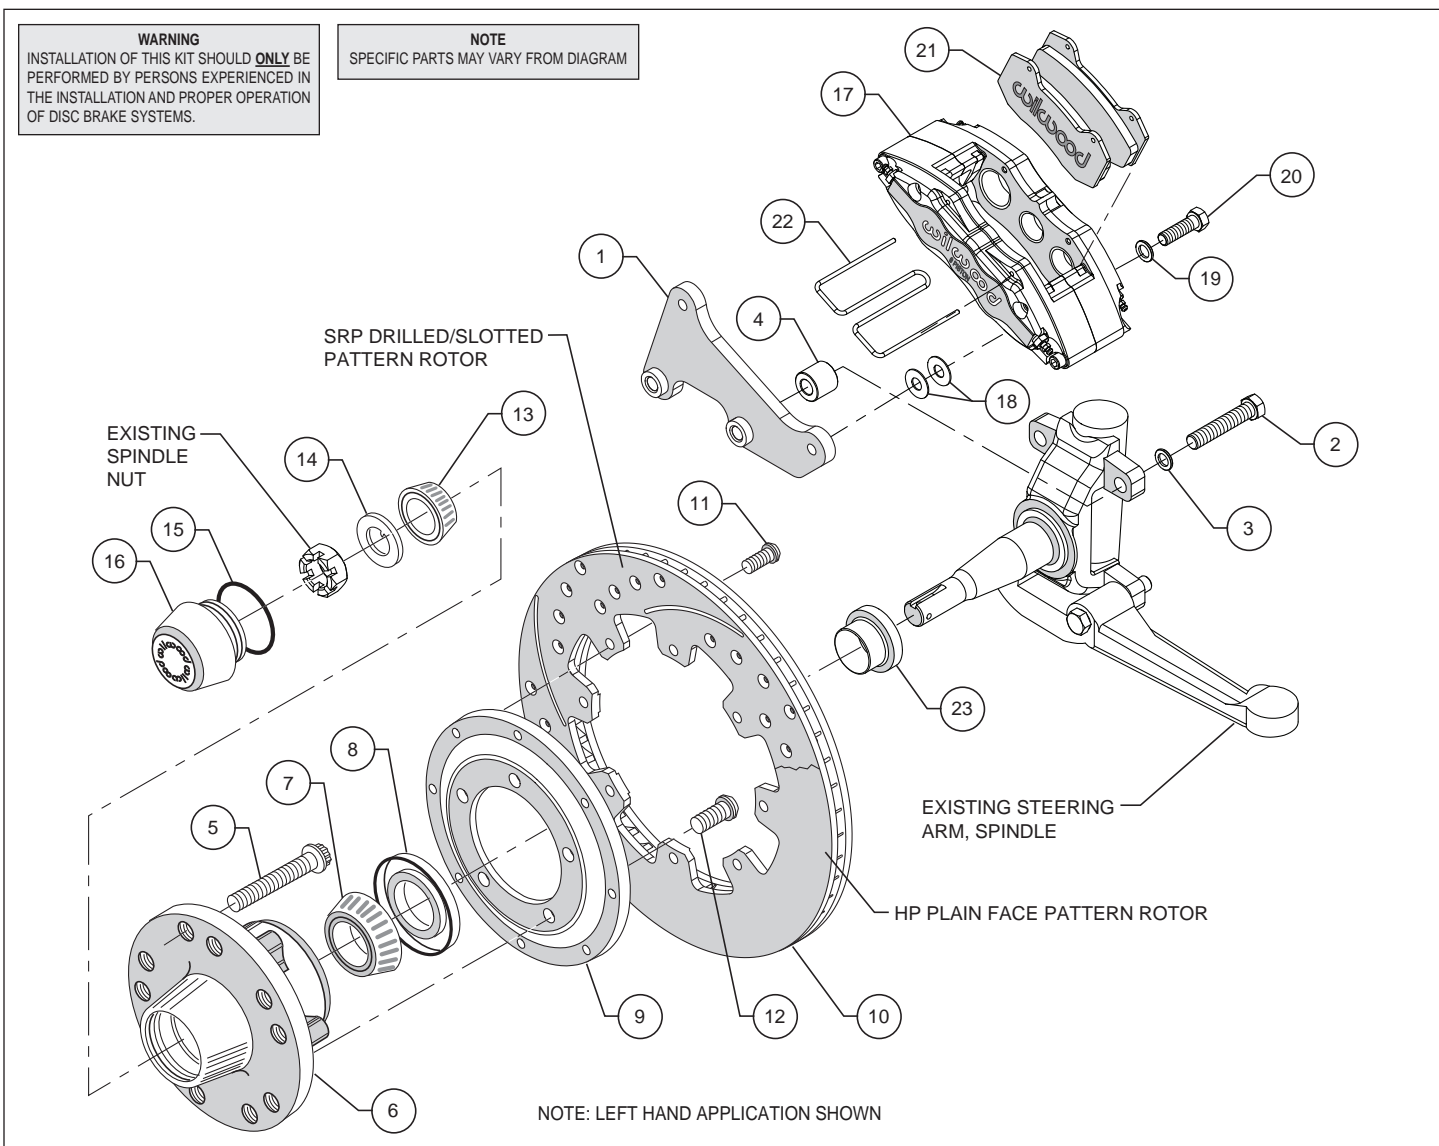
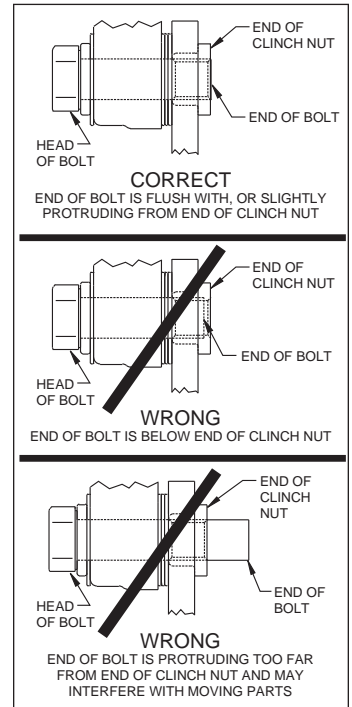

Figure 1. Typical Installation Configuration
Figure 3. Clinch Nut Engagement Diagram
Assembly Instructions (numbers in parenthesis refer to the parts list and Figure 1 on the preceding pages): **CAUTION:** All mounting bolts must fully engage clinch nuts. Be sure to check that all bolts are either flush or protruding through flanged side of clinch nut after shimming, Figure 3.
- Orient the caliper mount bracket (1) as shown in Figure 1, and install using bolts (2) and washers (3). Place a spacer (4) on each bolt between the bracket and caliper mounting bosses, Figure 1. Ensure that the flanged heads of the clinch nuts in the bracket are facing outboard. Temporarily tighten the mounting bolts. **NOTE:** The bracket must fit squarely against the mount bosses on the upright. Inspect for interference from casting irregularities, machining ridges, burrs, etc. Remove bolts one at a time, apply red *Loctite*[®] 271 to the threads and torque to 70 ft-lb.
- Slide the inner bearing spacer (23) onto the spindle with the larger O.D. facing inward, Figure 1 and Photo 1.
- Install wheel studs (5) into the hub (6), Photo 2. Torque to 77 ft-lb. **NOTE:** There are two five lug patterns in the hub (5 x 4.75 and 5 x 5.00). Ensure the correct hub stud pattern is being used to fit the wheel application.
- Pack the large inner bearing cone (7) with high temperature disc brake bearing grease (available from your local auto parts store) and install into the backside of the hub (6), Photo 3.
- Install the grease seal (8) by pressing into the backside of the hub (6), flush with the end of the hub, Photo 3.
- Orient the rotor (10) and the rotor adapter (9) as shown in Figure 1 and Photo 4. Attach the rotor to the adapter using bolts (11). Using an alternating sequence, apply red *Loctite*[®] 271 to the threads, and torque to 25 ft-lb.
- Mount the adapter/rotor assembly (9/10) to the hub (6) using bolts (12), as shown in Figure 1 and Photo 5. Using an alternating sequence, apply red *Loctite*® 271 to the threads, and torque to 55 ft-lb.
- Screw dust cap (16) into hub (6), Photo 7. Friction created by the o-ring (15) on the dust cap keeps it from unscrewing. **NOTE:** The O.D. of the existing OEM spindle washer may be larger than the I.D. of the dust cap not allowing it to seat against the hub face. Therefore, use the spindle washer (14) supplied with the kit instead of the OEM washer.
- NOTE:** Please reference the caution statement at the beginning of the assembly instructions. This kit contains distinct right and left hand calipers that must be mounted in a specific direction, as described below. Mount the caliper (17) onto the caliper mounting bracket (1) using bolts (20) and washers (19), as shown in Figure 1. Initially place two .035" thick shims (18) on each bolt between the caliper and the bracket, Photo 8. Ensure that the caliper is mounted so the largest pistons are at the rotor exit end of the caliper, in relation to the direction of rotor rotation. Temporarily tighten the mounting bolts and view the rotor (10) through the top opening of the caliper. The rotor should be centered in the caliper, Photo 9. If not, adjust by adding or subtracting shims between the bracket and the caliper. Always use the same amount of shims on each of the two mounting bolts. **NOTE:** The end of each bolt must be flush with or slightly protruding from the head of the clinch nut, as shown in Figure 3. If necessary place spare shims between washer (18) and caliper mounting ear to achieve the proper clinch nut engagement. Later, after the calipers are bled the mount bolts will be secured using red *Loctite*® 271.